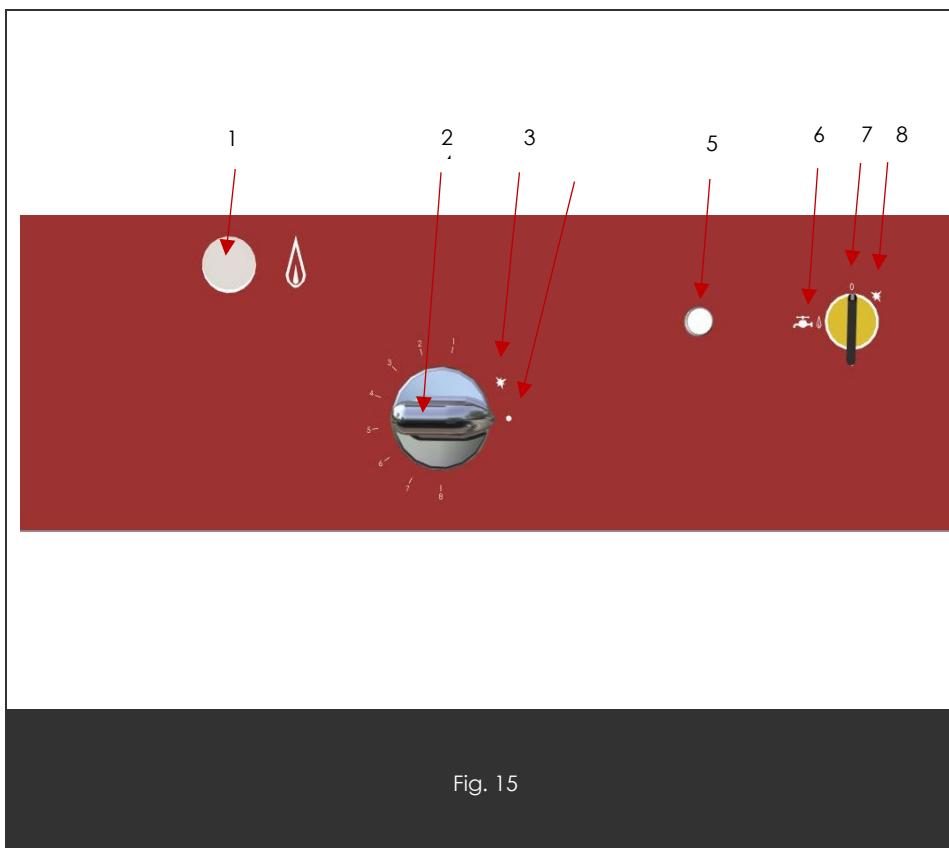

Fig. 15
- Switch on the appliance, the white light comes on (Fig. 15 Item 5)
- Press down the gas control knob (Fig. 15 Item 2) in the ignition/pilot light position (Fig. 15 Item 3) and at the same time turn the switch (Fig. 9 Item 8) to the ignition position (Fig. 15 Item 8).
- Set the gas control knob (Fig. 15 Item 2) to the desired temperature (see table above).
- To circulate water in the groove around the edge, turn the switch to the  position (Fig. 15 Item 6).